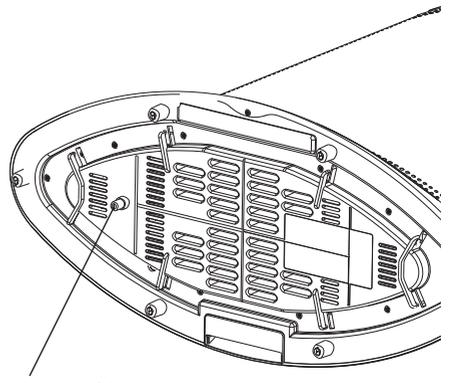

fig. 3
- The appliance is fitted with a **tip-over switch** (fig. 3) which turns the appliance off if it falls over. To restart the appliance, simply place it upright again.